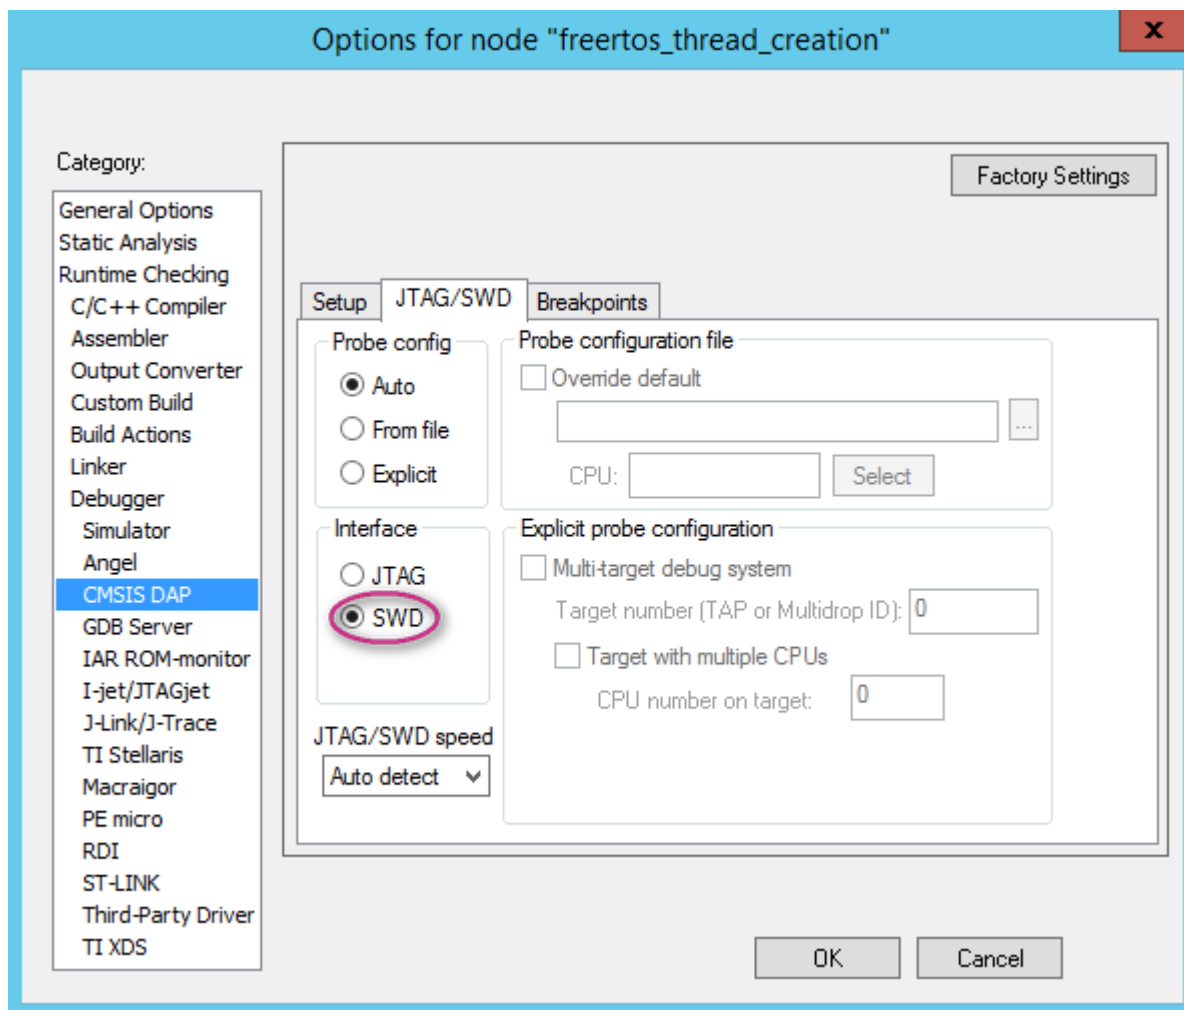

Figure 69. JTAG/SWD settings
- 1) Navigate to **JTAG/SWD** tab and provide the interface (see Figure 69).